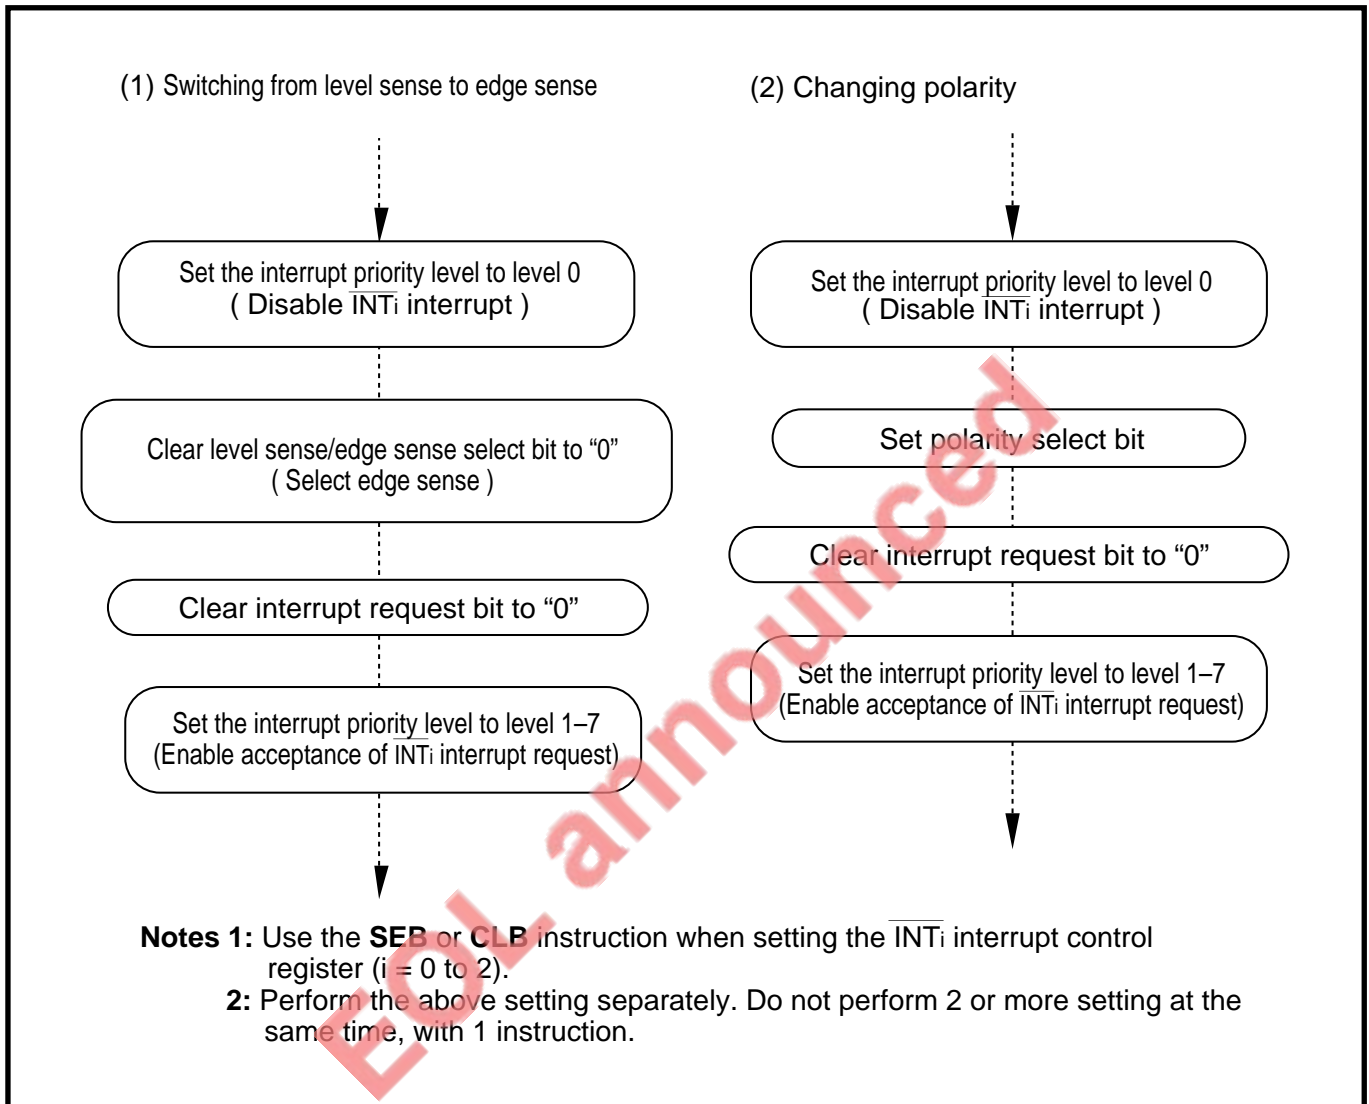

Fig. 4.10.5 Switching flow of occurrence factor of  $\overline{INT}_i$  interrupt request
To switch the occurrence factor of  $\overline{INT}_i$  interrupt request from the level sense to the edge sense, set the  $\overline{INT}_i$  interrupt control register in the sequence shown in Figure 4.10.5 (1). To change the polarity, set the  $\overline{INT}_i$  interrupt control register in the sequence shown in Figure 4.10.5 (2).